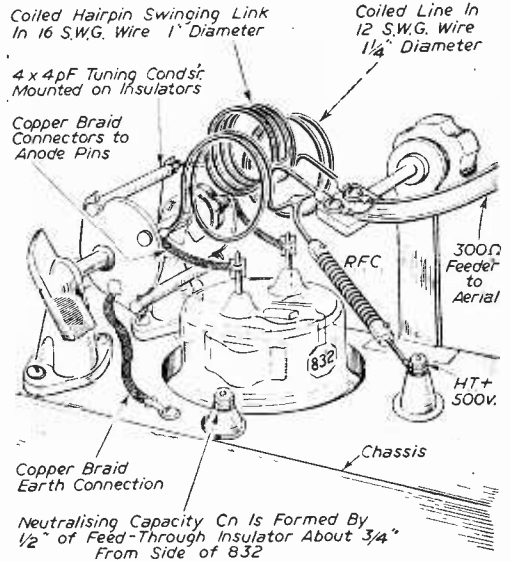

Fig. 2.—Coiled-lines tank circuit.
The actual construction of the lines is shown in Fig. 2. 14in. of 12 s.w.g. wire are taken for their construction and the exact centre of the length is found. The wire is then folded into a hairpin shape, with a straight section in the centre about 0.6in. long. The two ends are then wound around a
- Cn—Very small neutralising capacity (see Fig. 2).
Cn—See Fig. 2.